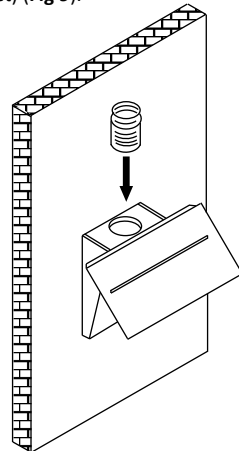

Fig 9
7. Attach ducting to top of Hamlet (if not using back outlet) (Fig 9).